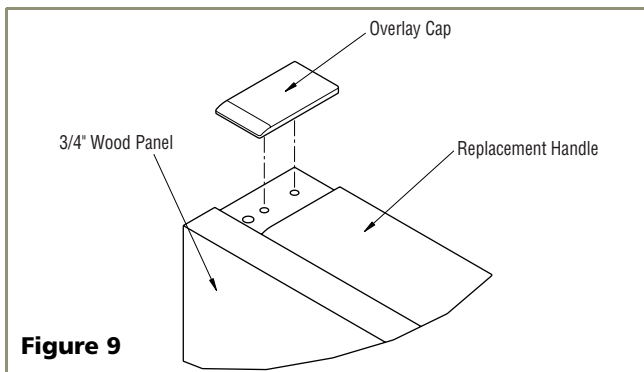

Figure 9
3. Attach Overlay cap to door, opposite side of where hinges will be (see **Figure 9**).